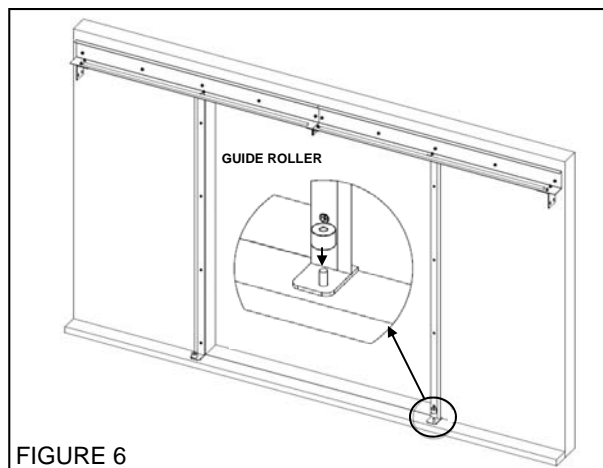

FIGURE 6
- Install *Bottom Guide Rollers* on stud at bottom of *Trail Jamb Channels* as illustrated in Figure 6.